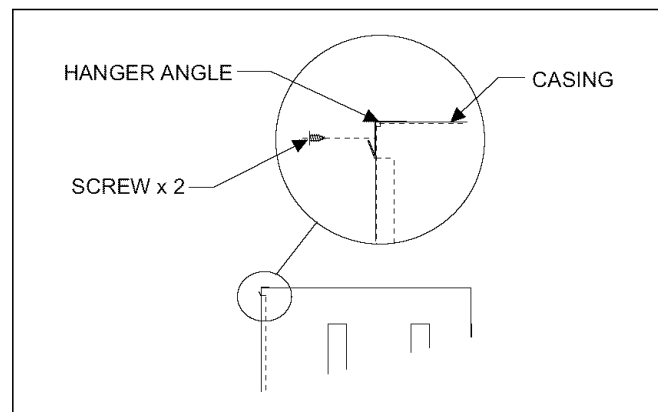

FIGURE 11 : HANGER ANGLE ATTACHMENT
6. Remove two (2) screws that are on the front of the unit at the top. Obtain front panel hanger angle from the upflow kit 3500-7211*. Secure the hanger angle with two (2) screws removed from the furnace casing. See Figure 11.